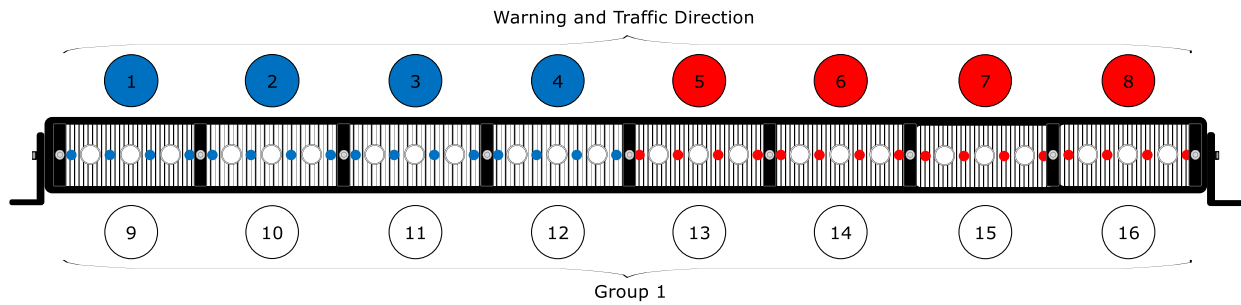

Figure 1 TRT-40x-TDxW-x (Blue/White and Red/White lamps used for illustration only, they could be any Color/White lamps.)
The TRT-40x-TDxW-x models consist of 8 lamps. All eight lamps are Color/White lamps. See Figure 1.
**Orange Wire** – Activates Steady Burn on the white lamps. See Figure 1.
**Blue Wire** – Activates the Warning patterns on the color lamps. See Figure 1.
**Brown/White Wire** – Activates the Traffic Direction patterns using the color lamps. See Figure 1.
**Brown Wire** – Activates the Traffic Direction patterns using the color lamps. See Figure 1.